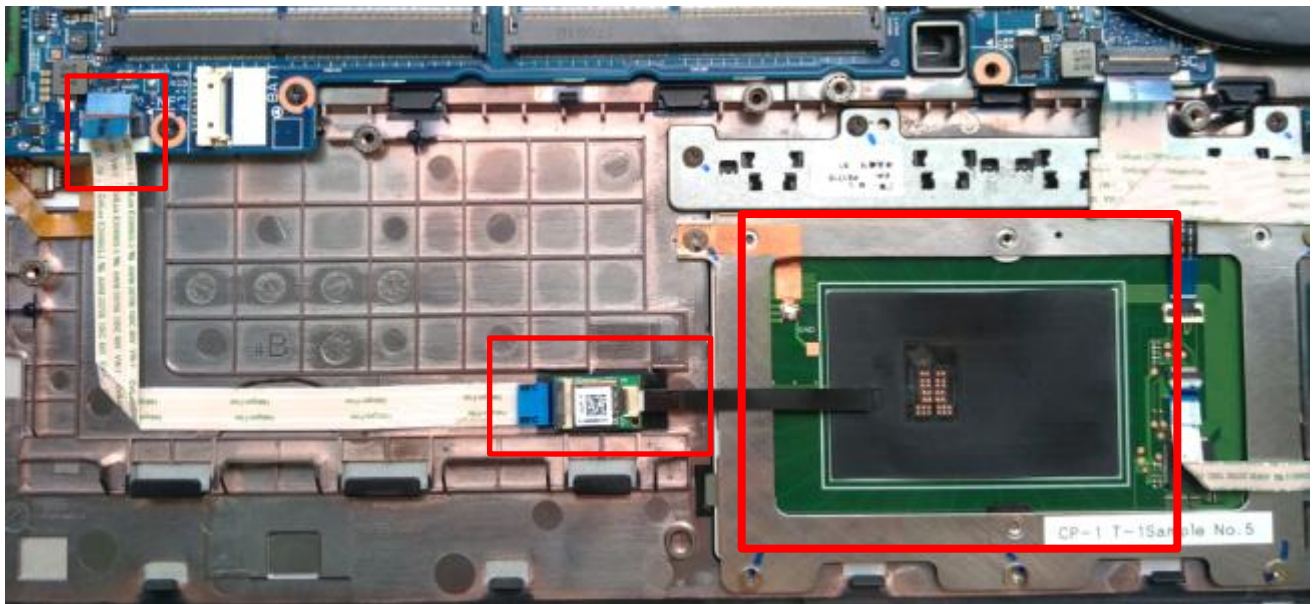

Fig.2
2. Disassemble NFC FFC, NFC module, NFC antenna(Fig.2).